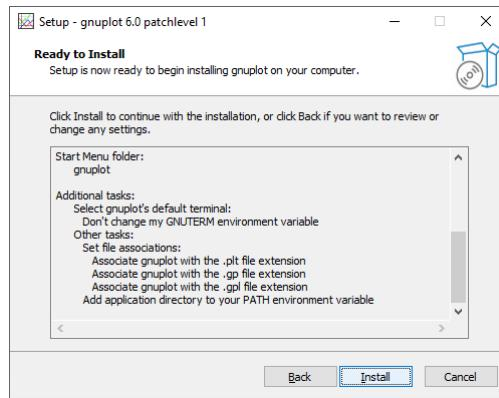

Figure 1.5: Gnuplot installer dialog box example 4
8. The last dialog box just shows you a summary of the options you have accepted. Scroll to the bottom of the list using the scroll bar and check that the last entry in the list reads “Add application directory to your PATH environment variable”, as in Figure 1.5.